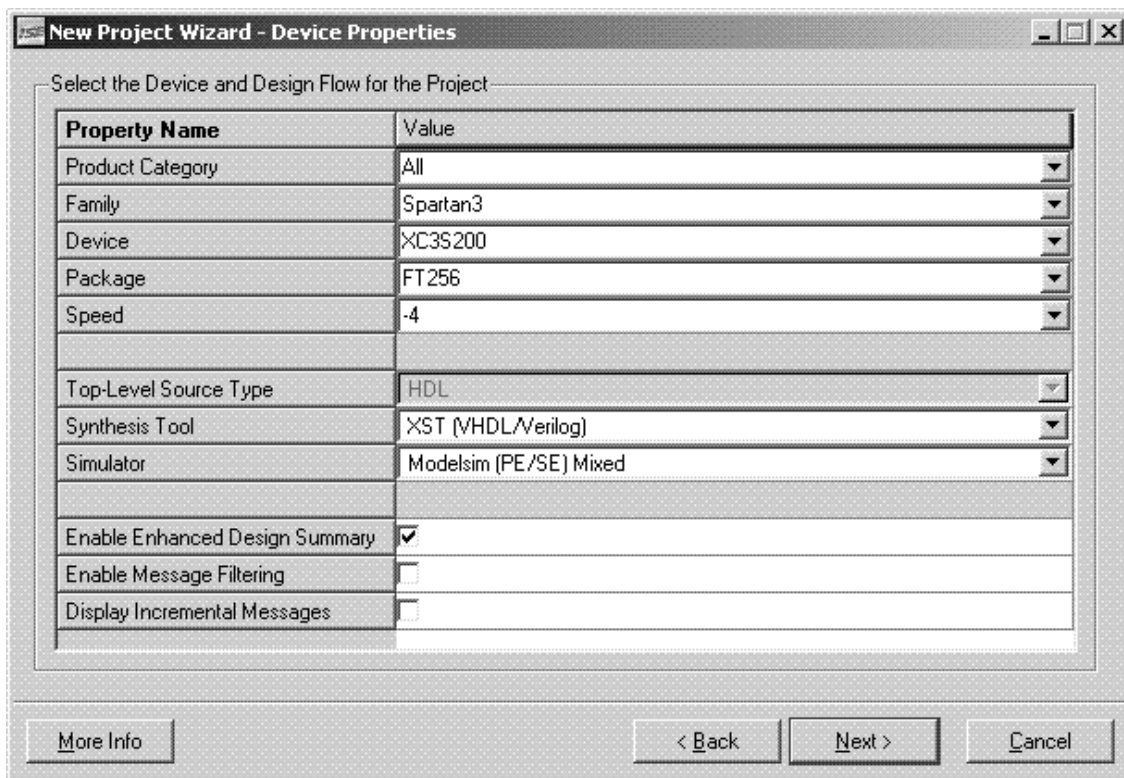

Figure 21: New Project - Device and Design Flow
- Click **Next**. Configure the Device and Design flow as shown in Figure 21. It should be noted that these settings need to be consistent with the XPS project settings.